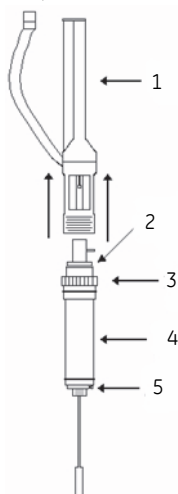

Figure 5-1. Pipette assembly.
- 1 The first step in removing the titration syringe is to decouple the syringe holder from the pipette, by turning the locking collar until it completely unscrews and gently pulling the holder down until the two pieces come apart (see *Figure 5-1*).
Table 5-1. Part in Figure 5-1.